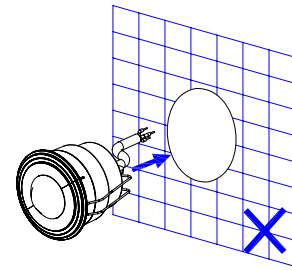

FIGURE 1
- The unit cannot be installed on the wall. (FIGURE 1)